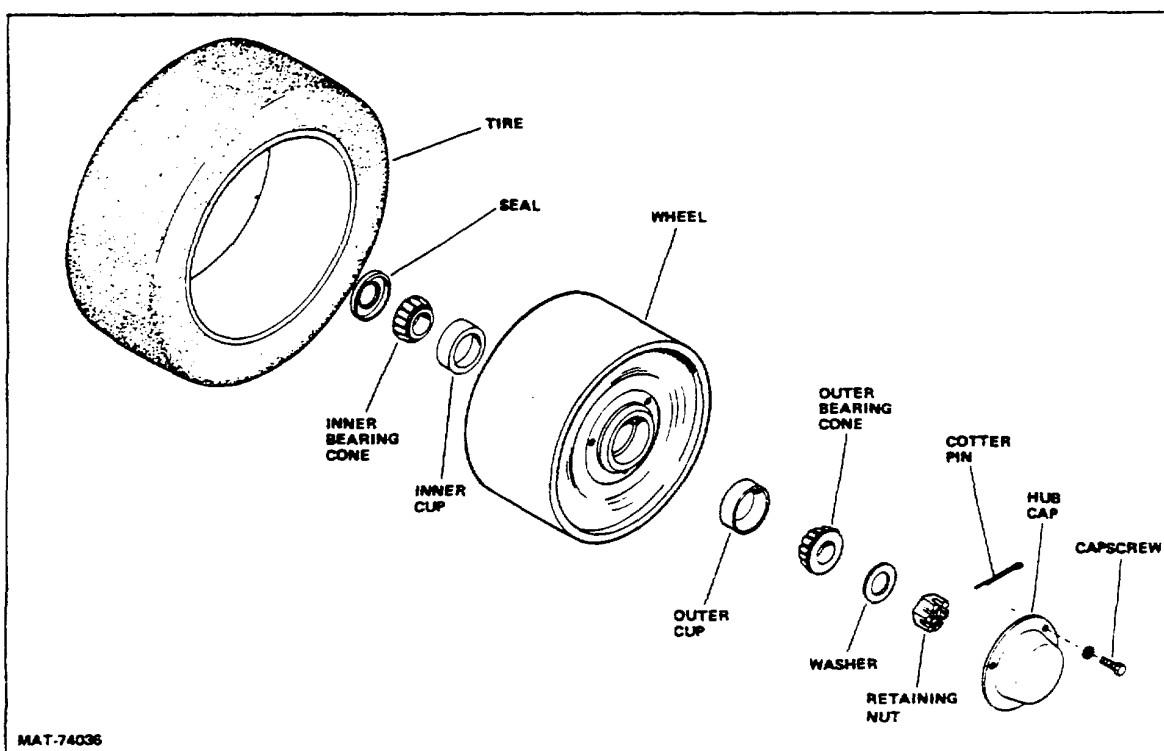

Figure 7-1. Steer Wheel Assembly
2. Remove the capscrews and lockwashers that secure the hub cap to the wheel and remove the hub cap (Fig 7-1).